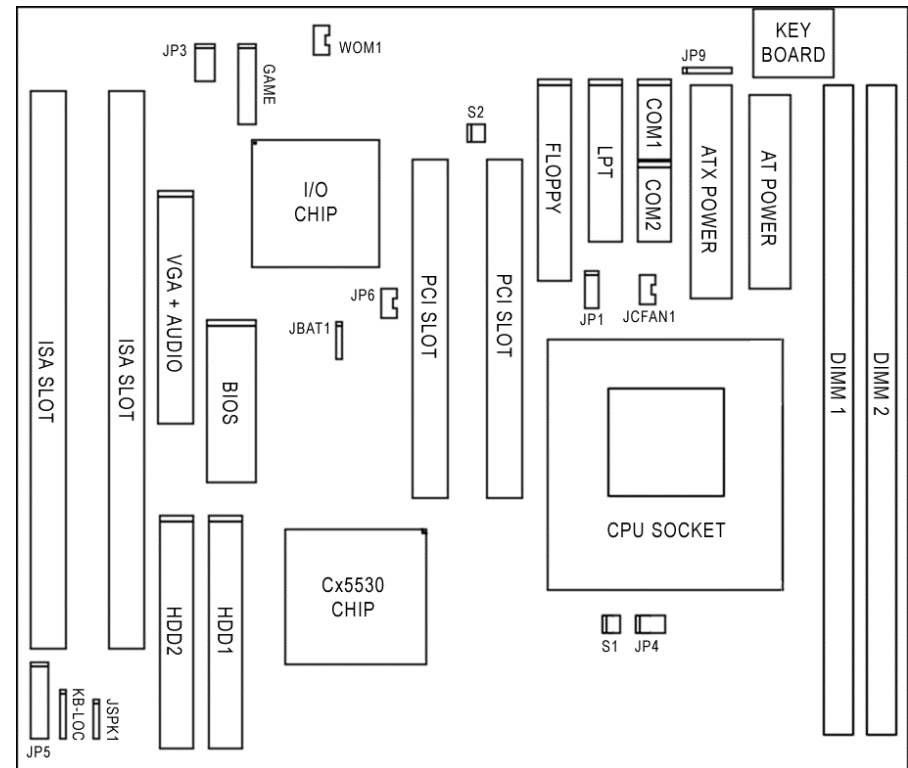

Figure 2.1 GXM-3 System Board Components Layout
Please refer to figure 2.1 for the connector's location.
**NOTE :** Ribbon cables should always be connected with the red stripe on the Pin #1 side of the connector. The Pin #1' s direction was marked as double line in Figure 2.1 and 2.2. IDE ribbon cable must be lesser than 46cm, with the second drive connector no more than 15 cm from the first connector.